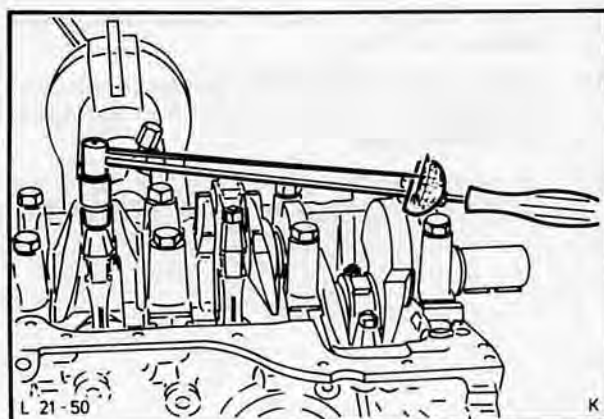

Fig. 107. Torque connecting rod bolts as specified in Technical Data
44. Fit big end bearing cap complete with oiled bearing shell. Torque connecting rod bolts as specified in Technical Data, Fig. 107.